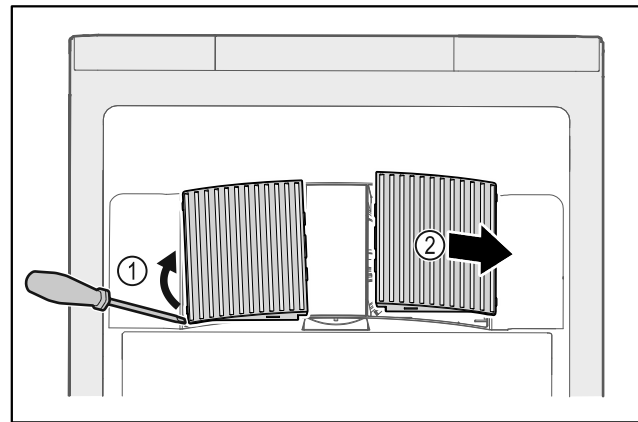

Fig. 237
- ▶ Carefully lever out fan covers from the side Fig. 237 (1) and remove towards the front Fig. 237 (2).